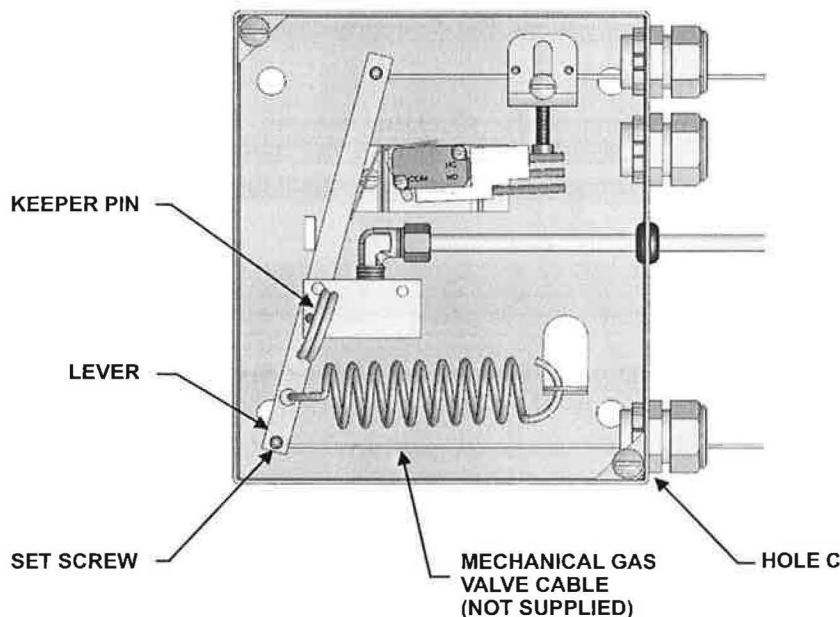

Figure 5-21. A+ Control Box in "SET" Position
4. Install the Keeper Pin. The A+ Control Box is now held in the "SET" position (see Figure 5-21).